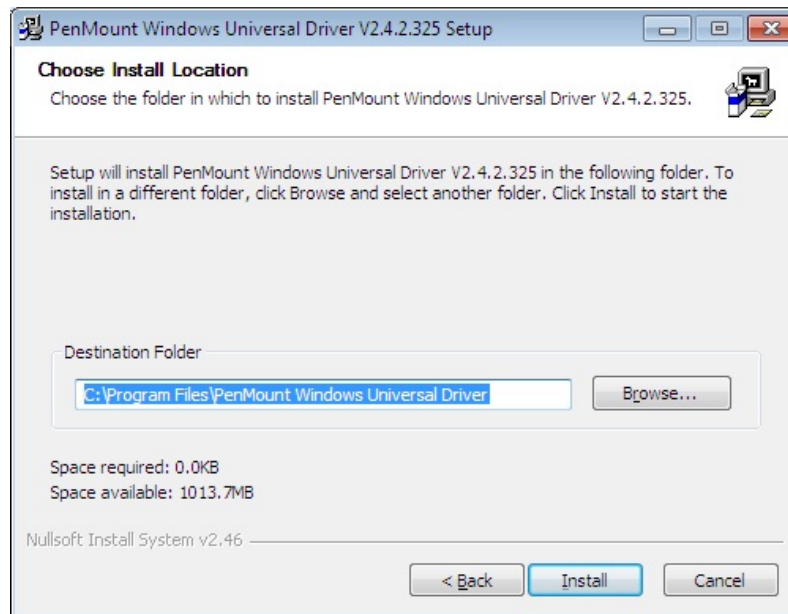

Figure 6-29: Choose Destination Folder
Step 9: Select the destination folder where the setup files will be copied to (**Figure 6-29**).